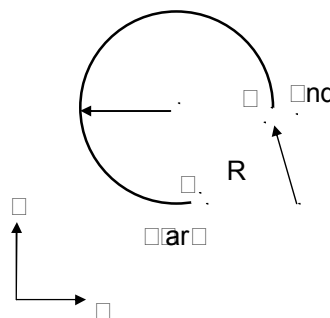

Fig. 3-10 Arc cutting
2. There are two different arc types available for arc cutting (Fig. 3-10):
□□ In Fig. 3-10, an arc is cut with an angle $< 180^\circ$ (+R):